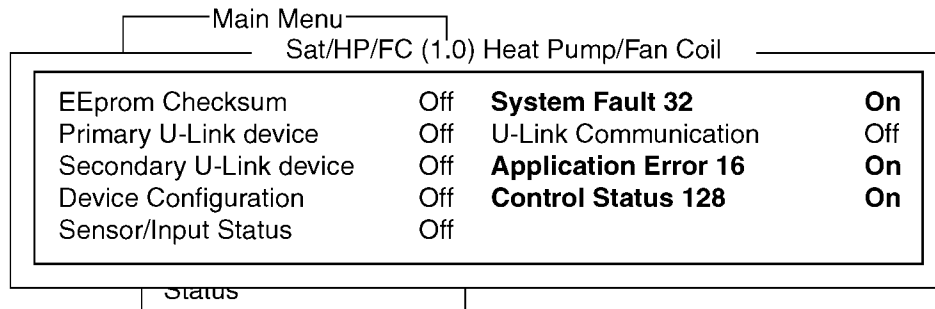

Figure-5.2 Device Diagnostics Window.
2. Select *Diagnostics* and press <Enter>. The *Diagnostics* window appears (Figure-5.2).